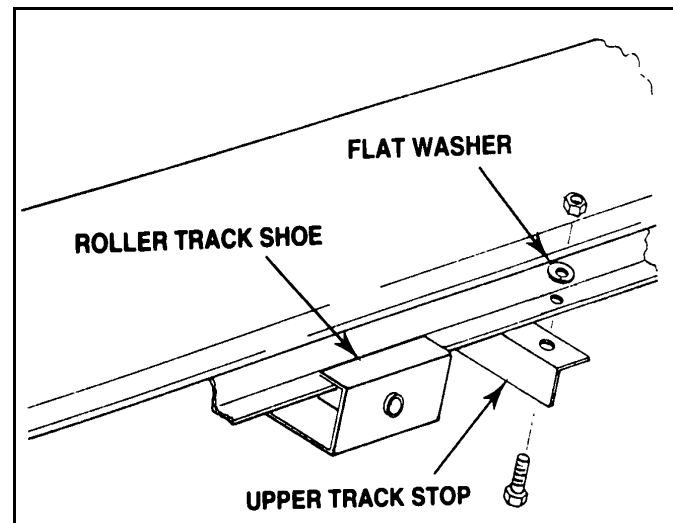

Figure 3.5
2. Attach the upper angle iron track stop with 7/16" x 1" bolts, heavy flat washers, and locknuts (Figure 3.5). For correct positioning of the upper track stop, see below.